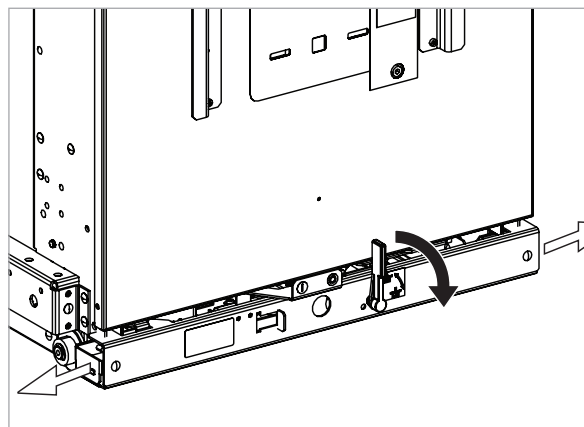

Fig. 22
- HVX trucks for PIX High Panels are anchored in the panel by actuation of the truck interlock (Fig. 22).